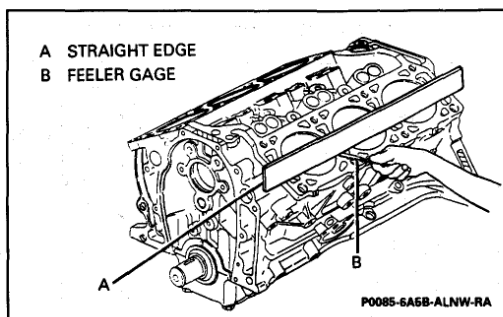

Figure 26 Measuring Cylinder Block for Flatness
- Check surface for flatness. Use a straight edge and a feeler gage (Figure 26). If the cylinder head deck flatness exceeds 0.1mm (0.004 inch), the surface should be machined flat. If more than 0.25 mm (0.010 inch) must be removed, replace the block.